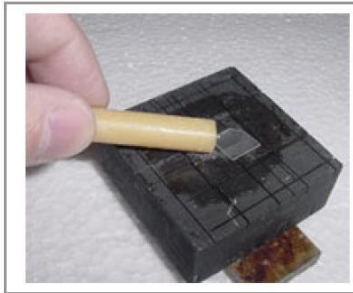

Figure 4
1. Place the sample on the graphite plate and aluminum plate, heat the sample to 80°C by a hot plate (digital heating plate is available), then glue them together by waxing (Fig. 4). You may glue graphite and aluminum plate by high temperature epoxy glue (available from auto store) first, then wax sample to graphite later by wax.